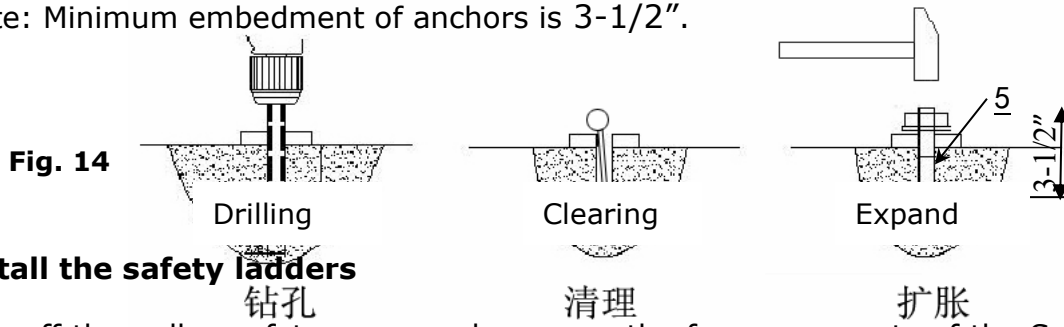

Fig. 14
2. Using the prescribed rotary hammer drill, and drill all the anchor holes and install the anchor bolts, do not tighten the anchor bolts first (See Fig. 14).